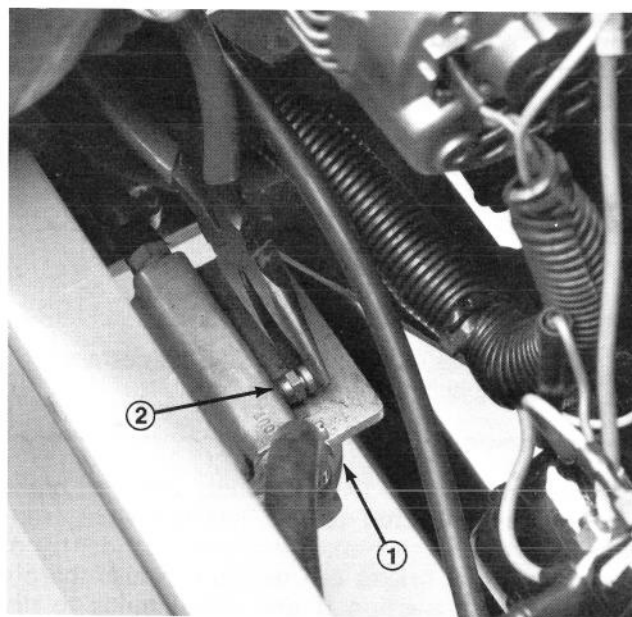

Figure 20
2. Loosen air bleed screw on top of fuel filter/water separator (Fig. 20).